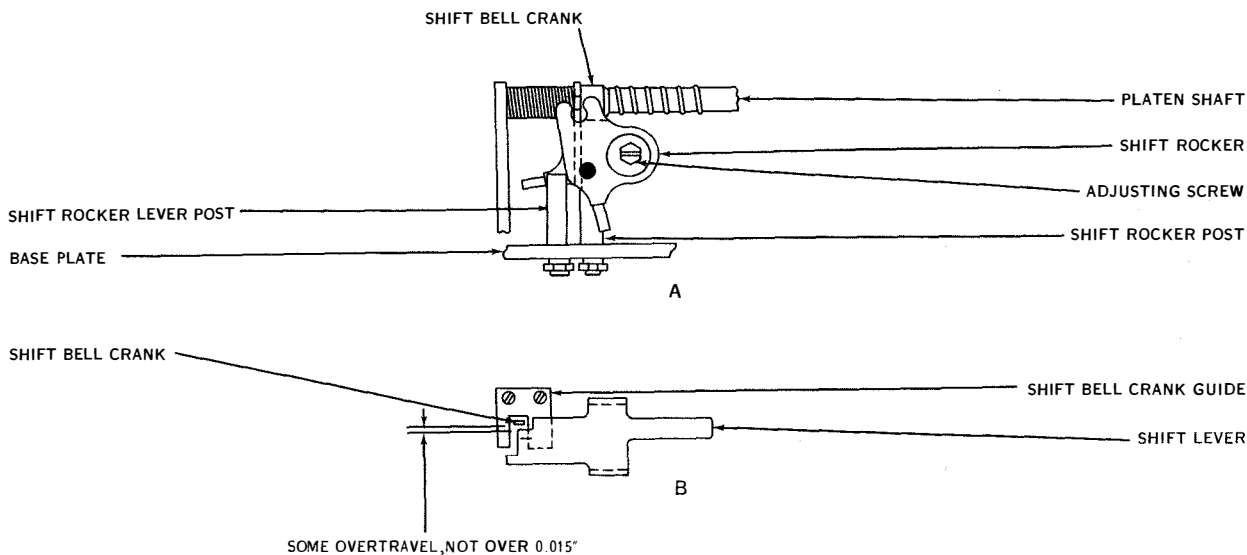

Figure 7-62. Shift Rocker Lever Post, Shift Bell Crank Guide, and Shift Rocker
(71) SHIFT ROCKER LEVER POST. (See figure 7-62.)—The front surface of the shift rocker lever post should be parallel to the front edge of the base plate. To adjust, rotate the shift rocker lever post. Hold the post in position and tighten the lock nut.
(74) SHIFT ROCKER. (See figure 7-62.)—The vertical end of the shift bell crank should overtravel the rear shoulder of the shift lever by some, not more than 0.015 inch, when the play in the shift lever is taken up toward the rear of the unit. To check, set the main bail spring at its operation tension (14 to 15 pounds) and place a 0.156-inch spacer (5/32-inch wrench No. 125775) between the main bail spring adjusting lever and spring adjusting screw so that the other end of the adjusting lever rests against the selector mounting